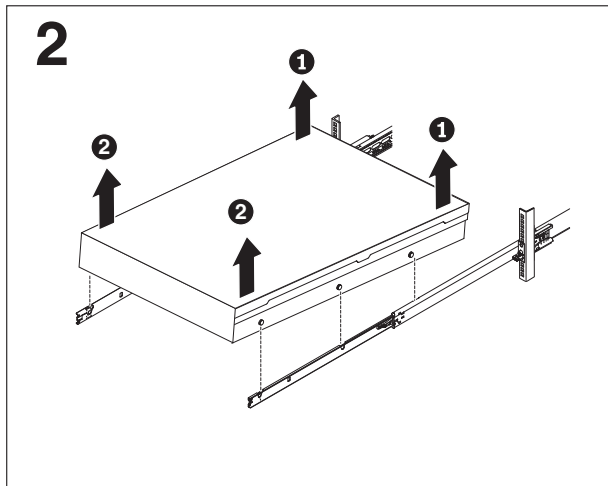

Figure 46. Lifting the server off the slide rails
6. Lift the rear **1** of the server to level the server after the front nailheads clear the latches, as shown in Figure 46 on page 63.